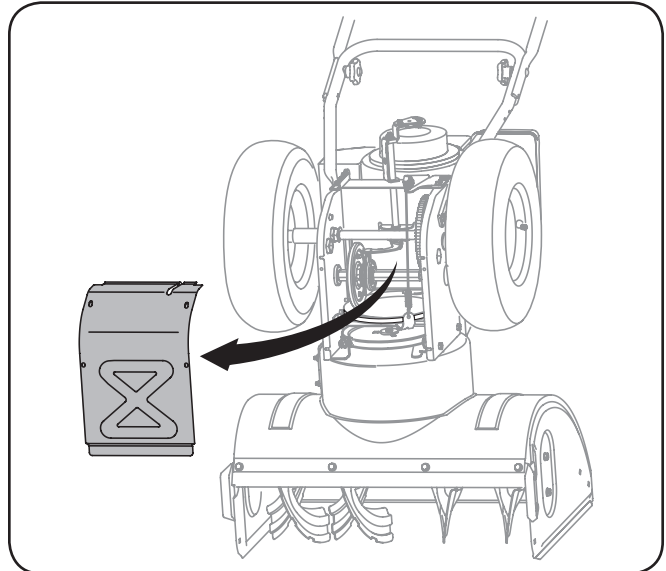

Figure 7-3
3. Remove the frame cover from the underside of the snow thrower by removing the self-tapping screws which secure it. Refer to Fig. 7-3.
5. Remove the frame cover from the underside of the snow thrower by removing the self-tapping screws which secure it. See Fig. 7-3.
5. Remove the frame cover from the underside of the snow thrower by removing the self-tapping screws which secure it. Refer to Fig. 7-3.